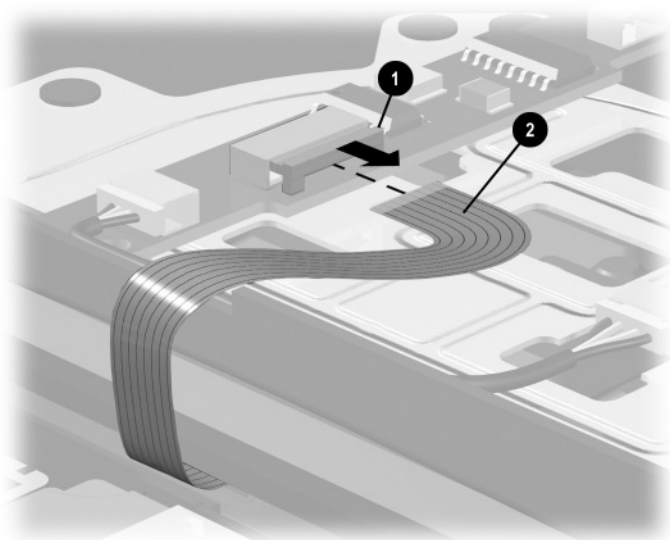

Figure 5-10. Disconnecting the Pointing Stick Button Cable
12. Release the zero insertion force (ZIF) connector to which the pointing stick button cable is attached ❶ and disconnect the pointing stick button cable ❷ (Figure 5-10).